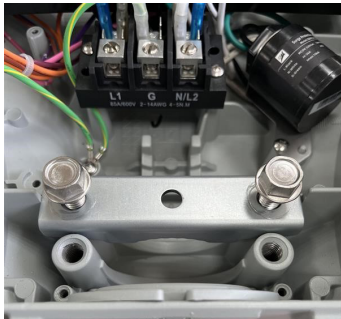

Fig 3.1.
**Step 4 -** Securely tighten bolts to 16±2 lbs-ft. (22Nm ± 3Nm) by alternating from bolt to bolt **in equal measured amounts of 25% torque**. (Refer to image, Fig 3.2 below for tightening order for 4 bolt mounting bracket. Number of bolts may vary depending on the fixture, Fig 3.1.) Ensure that the slip-fitter bracket does not tilt completely to one side and refrain from unevenly tightening bolts, as it will cause cross-threading.